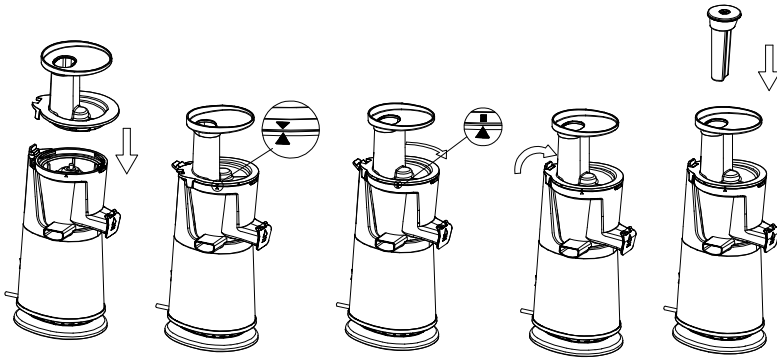

Fig. 4
- Put the jar lid downwards on the jar and then align the symbol “▼” on the jar lid with the symbol “▲” on the jar. Then rotate the jar lid clockwise until the symbol “▲” on the jar aligns with the symbol “I” on the jar lid (see Fig.4). Press the locking plate upwards to lock the jar lid into position. Every part needs to be assembled correctly, otherwise the appliance will not operate. Place the food pusher into the chute.